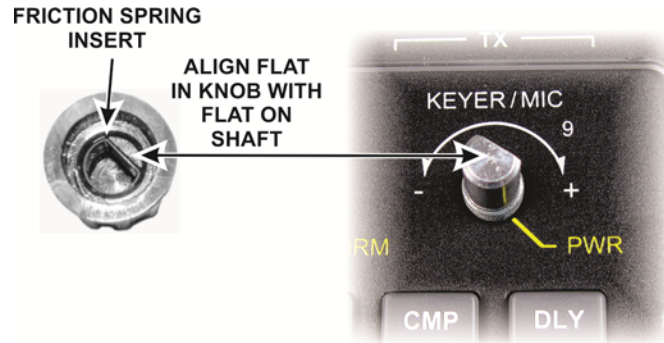

Figure 21. Mounting Friction Knobs.
□ Press small knobs on the four remaining encoder shafts. These knobs are all the same size and are held in place by a friction spring as shown in Figure 21. Align the flat in the knob with the flat on each shaft before pressing each knob in place. If they are a tight fit, support the CP board with your fingers while pressing each knob in place. In addition to the rotating encoder, each knob has a switch that is actuated by pressing the knob toward the panel. You will feel the switch action when you press each knob onto the shaft.